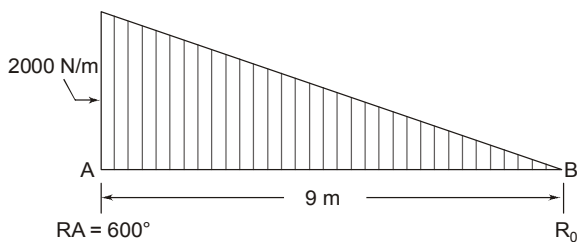

Fig. 1
7. (a) A bar 40 mm in diameter is subjected to a tensile force of 40,000 kg. The extension of bar measured over a gauge length of 200 mm was 0.318 mm. The decrease in diameter was found to be 0.02 mm. Calculate values of Young’s modulus of elasticity and modulus of rigidity of the material. (10)
- (b) Draw S.F and B.M. diagrams for beam loaded with varying load as shown in Fig.1 (10)